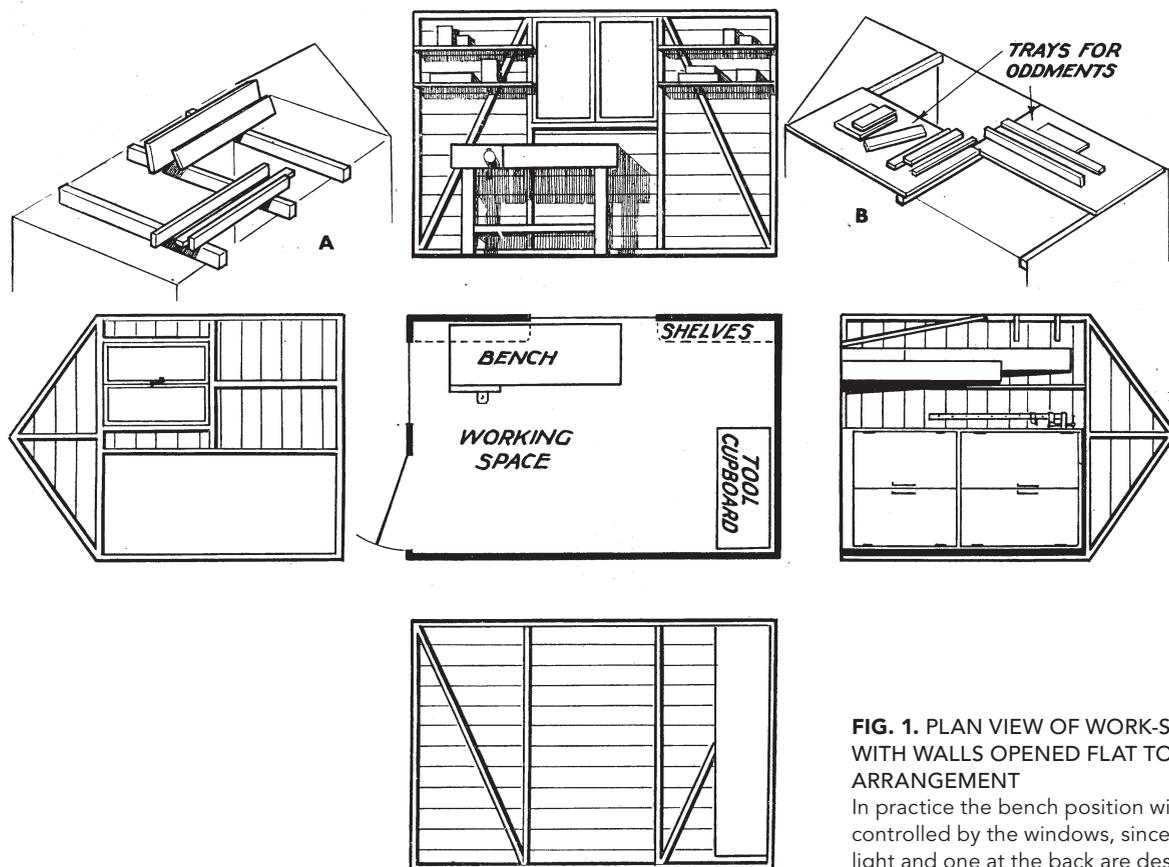

FIG. 1. PLAN VIEW OF WORK-SHED WITH WALLS OPENED FLAT TO SHOW ARRANGEMENT
Fig. 1 is a suggested lay-out for such a shed. It will be seen that there is a
and when the shed has a span roof one of two things can be done. One is to fit a couple of tie beams on which the longer pieces of wood can rest as at (A). The other is the idea shown at (B), Fig. 1. A centre tie beam is fitted and two trays added, these being staggered to give easy access. These will hold the many small pieces of wood which are too valuable to throw away.